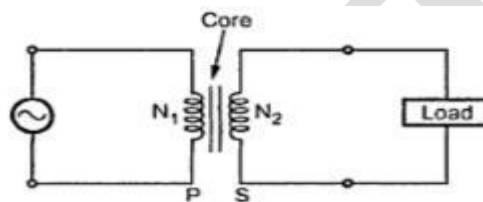

Fig 1.3 Symbolic representation
This winding is called secondary winding (S). The primary winding has N_1 number of turns while the secondary winding has N_2 number of turns. Symbolically the transformer is indicated as shown in the Fig 1.3.